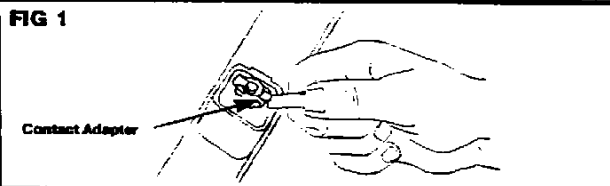

FIG 2
When using the Halo-2 Lampholder with the Halo-2 Power-Trac System (L640, L641, L643) adjust the contact position of each lampholder to the desired circuit—Circuit #1 (DOWN) or Circuit #2 (UP) (FIG 2, 3).